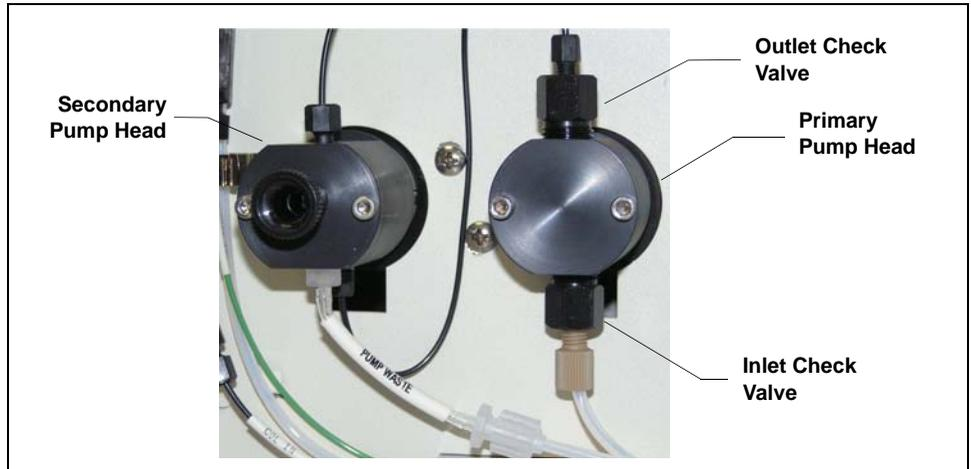

Figure 5-4. Pump Heads
4. Disconnect the tube fittings from the inlet and outlet check valve assemblies on the primary pump head (see Figure 5-4).
1. Rinse the pump flow path with deionized water. Direct the flow to waste by opening the waste valve on the secondary pump head (see Figure 5-4). To open the valve, turn the knob one-half turn counterclockwise.